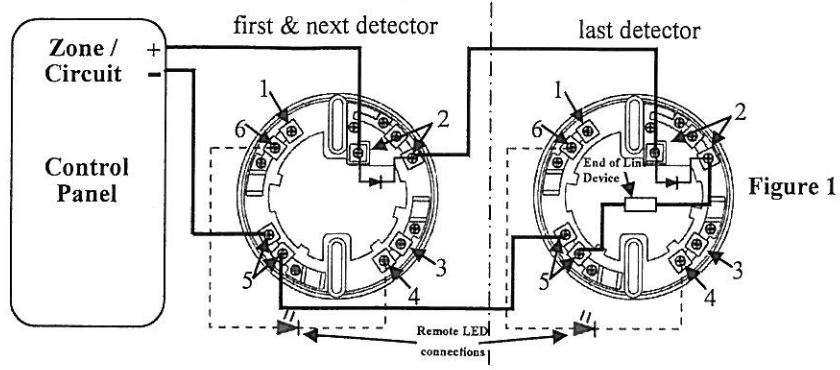

Figure 1
Figure 1 below shows a typical wiring diagram for a 2-wire multiple device detector system.
- The end-of-line device shown in figure 1 should be compatible with the control panel.
The base is designed for use with conventional systems that have manual call points and or 2 or more detectors fitted on the same Zone/Circuit and where correct functioning of the manual call points and detectors is required when 1 or more detectors heads have been removed. Connect the positive of the zone to terminal 2 and the negative to terminal 5. If a remote LED indicator is required connect the positive of the LED to terminal 6 and the negative to terminal 4. The End of Line device should be fitted in the last detector as indicated in figure 1.